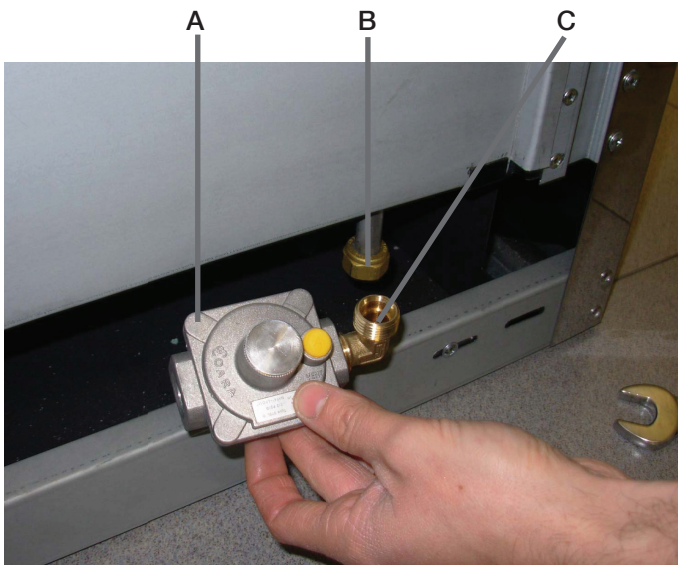

Fig.2a
- As show in **Figure 2a**, unscrew B part from C part.
Screw B part into A part (**Fig. 2a**). Please use a proper gasket, for this connection.